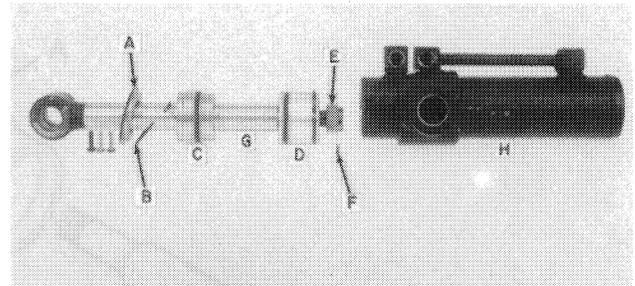

FIGURE 2-17
2. If the cylinder is disassembled on the machine, remove the three cap screws holding the head cap to the head, Figure 2-17.
4. Pull the piston assembly out of the barrel, Figure 2-17.
6. Figure 2-17 shows the latest components - head cap, A; retaining ring, B; head, C; piston, D; nut, E; roll pin, F; piston rod, G; and cylinder, H.
**NOTE: Two different heads and seal kits are used on the LB-620. Figure 2-17 shows the head used on and above serial number 706175. Figure 2-18 shows the head and seals used on and below serial number 706174.**
6. Slide all the parts shown in Figure 2-17 on the piston rod. The piston must be installed with the recessed side next to nut, E.